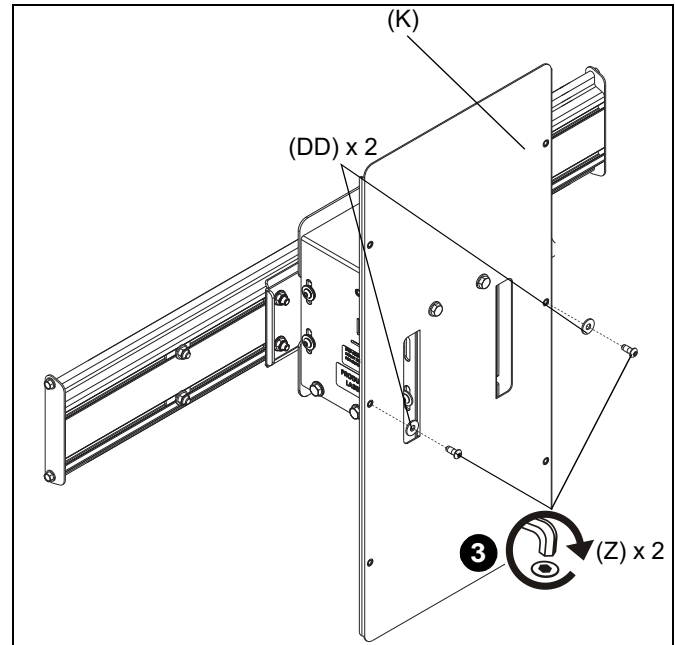

Figure 11
3. Loosely install two 1/4-20 x 5/8" button head cap screws (Z) and two 1/4" washers (DD) into two center holes on center wind shield (K). (See Figure 11)